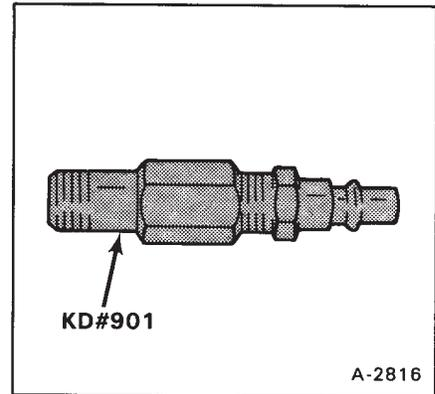

Fig. 2 Air Hose Adapter
5. Install the air hose adaptor (Fig. 2) into the #1 spark plug hole.